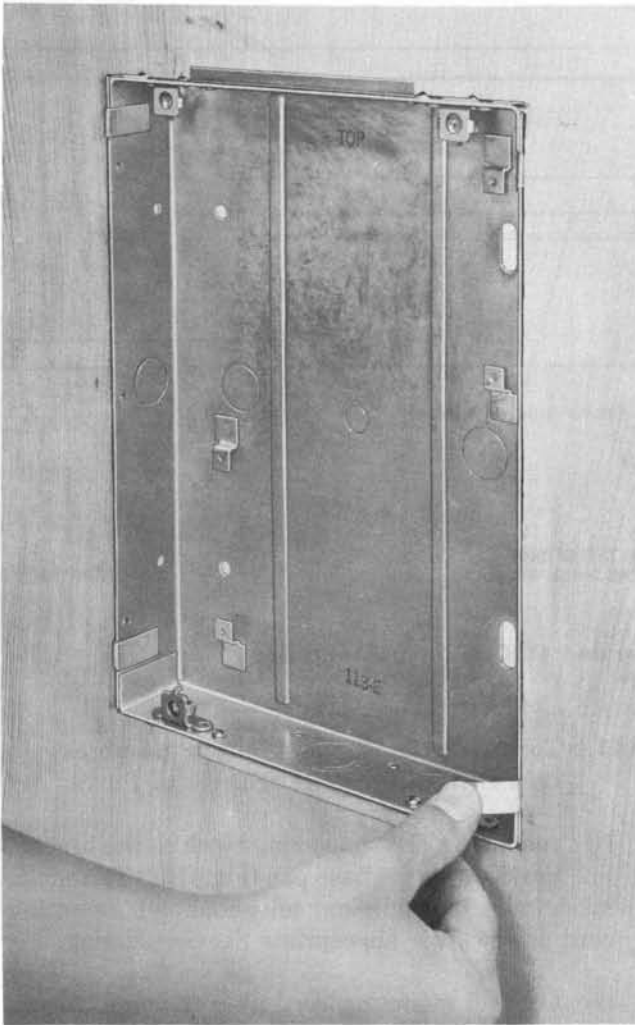

Fig. 6—113E Apparatus Box with D-179941 Kit of Parts Installed
- (4) Bend the clip tabs over the side of the apparatus box locking the box firmly to the wall (Fig. 6).